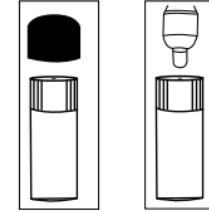

Figure 3A Figure 3B
2. Remove the vinyl cap from the vial to expose the small leak hole as shown in Figure 3A below. DO NOT UNTWIST THE BLACK CAP FROM THE BOTTLE.